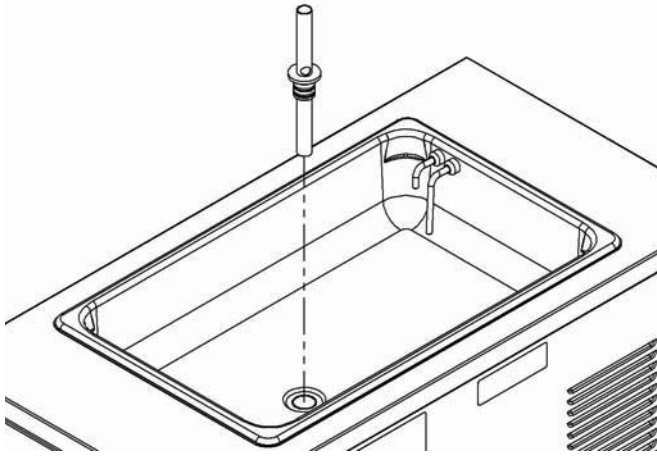

Figure 3-2 Mix Inlet Regulator
- B. If using a shake mix, place the mix inlet regulator into hopper (Refer to Figure 3-2). If using a slush mix, the mix inlet regulator is not required.